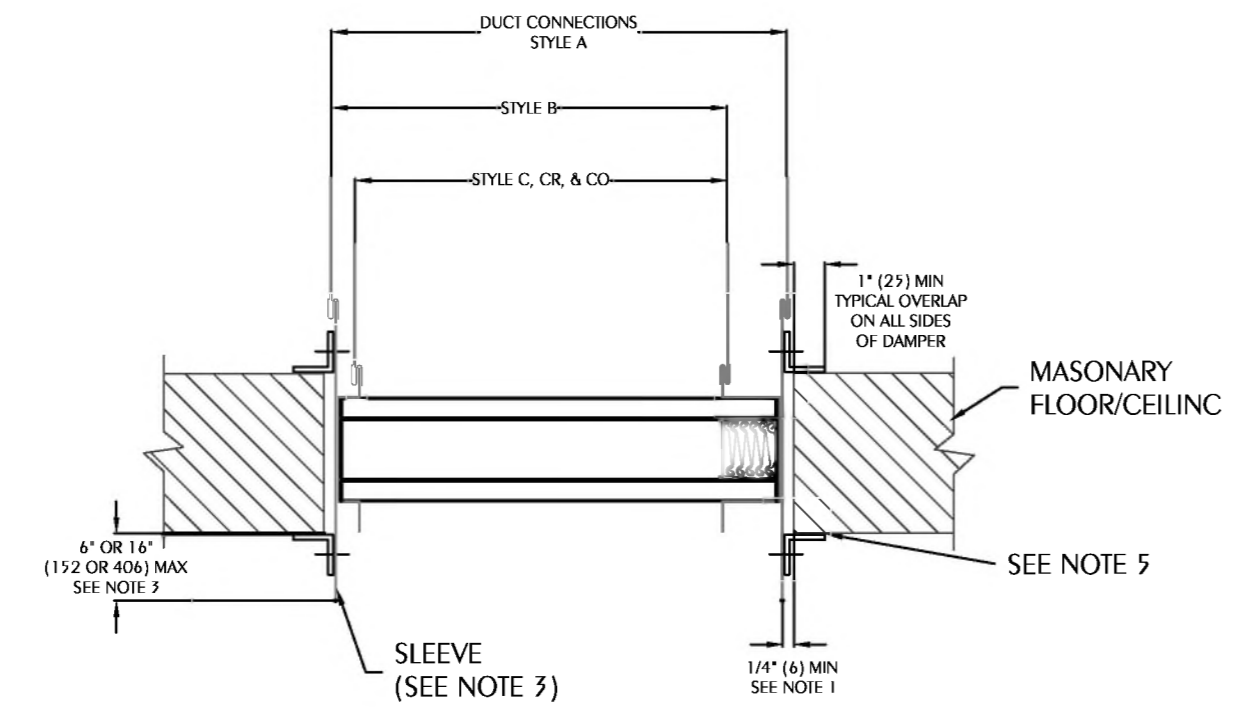

FIGURE 3
Use No. 10 (M5) bolts or screws, 3/16" (5) rivets, tack welds or spot welds as depicted in figures 3 and 4 and spaced as follows when joining individual dampers to make multiple section damper assemblies or when fastening damper to the sleeve.